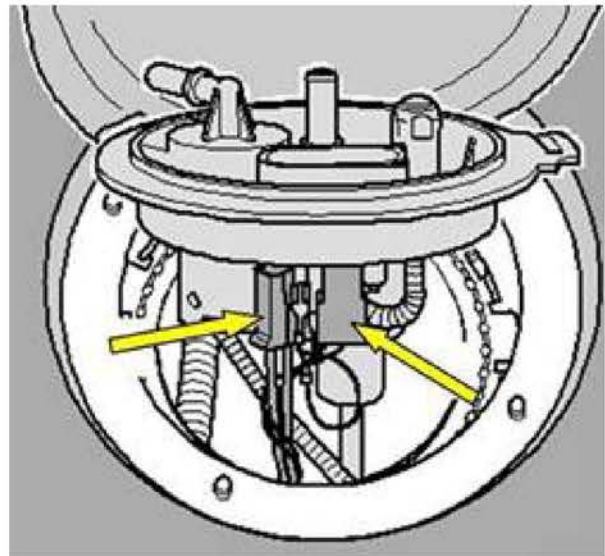

Figure 2. Two electrical connectors on the right locking flange to be disconnected.
3. Disconnect two electrical connectors on the underside of the right locking flange (Figure 2).